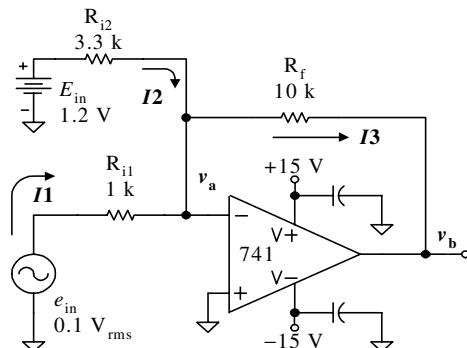

Figure 1-37 Inverting summer schematic for Problem 1-12
- 1-12** Calculate the dc and ac currents and voltages for the circuit in Figure 1-37.